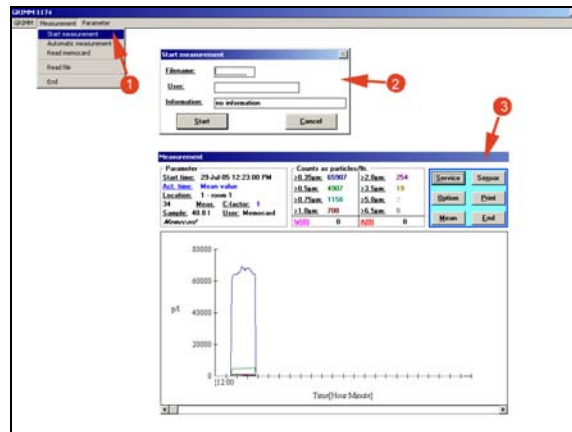

Fig.5: Launch measurement
- Open the MEASUREMENT tab and activate the SATR MEASUREMENT function (step 1 in fig.5);
- Name file, operator's name and enter additional information if necessary and click the START icon (step 2 in fig.5);
- Open the measurement tab and activate the Start measurement function (step 1 in fig.5);
- Terminate measurement by clicking the STOP-icon (step 3 in fig.5);